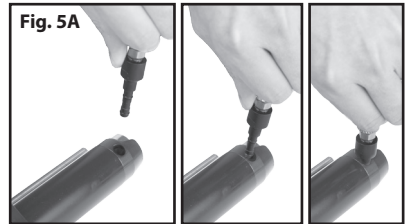

Fig. 5A
2. With the AIRBOW in a secure position, attach the fill nipple (located separately in package) to the fill nipple port on the front of your AIRBOW (Fig. 5A).